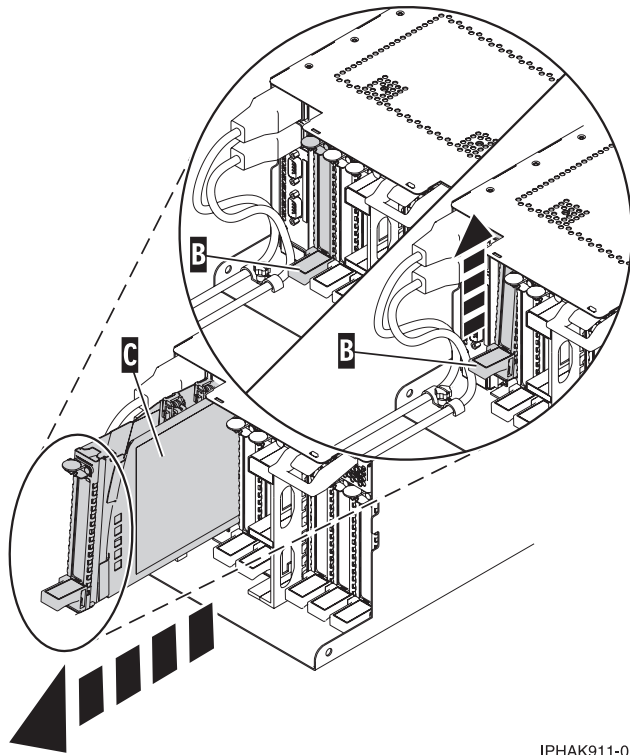

Figure 94. PCI adapter cassette removed from the system unit
- b. Lift up the lower cassette handle (B) as shown in Figure 94 on page 108. Pull the PCI cassette (C) out of the system.